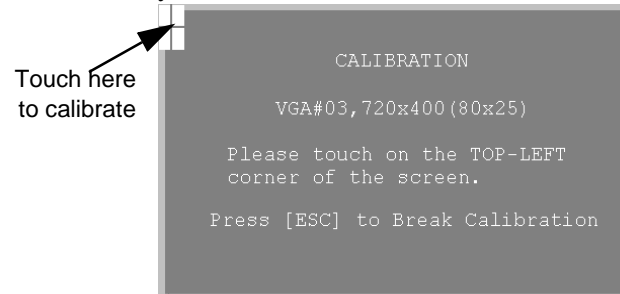

Figure 4-5 Calibration Intersections
5. Touch the intersection indicated on the screen. See *Figure 4-5*.